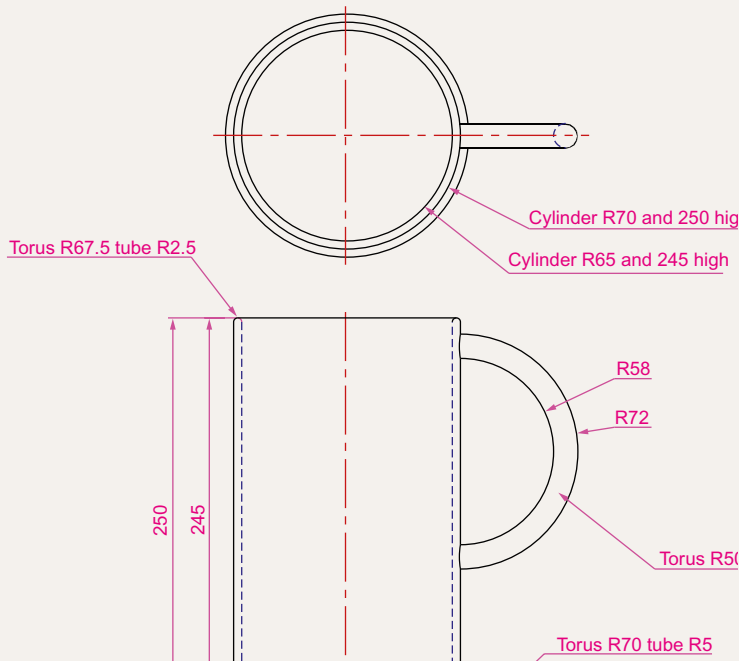

Fig. 14.40 Exercise 4
- Construct a solid of revolution of the jug shown in the orthographic projection (Fig. 14.40). Construct a handle from an extrusion of a circle along a semicircular path. Union the two parts. Place the 3D model in a suitable isometric view and render.